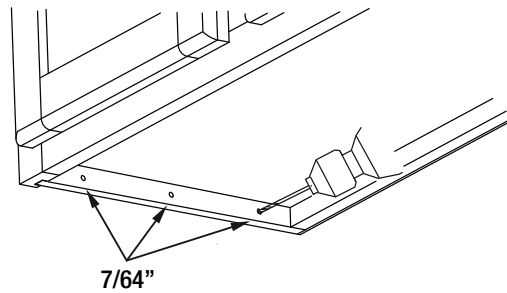

Fig. 19-2
- Set the bracket aside and drill three 7/64" holes in the marked locations as shown in figure 19-2
- Secure the bracket to the side frame using a screwdriver and provided 18mm wood screws (AA). If a given pre-drilled pilot hole has stripped, use the adjacent mounting hole instead.